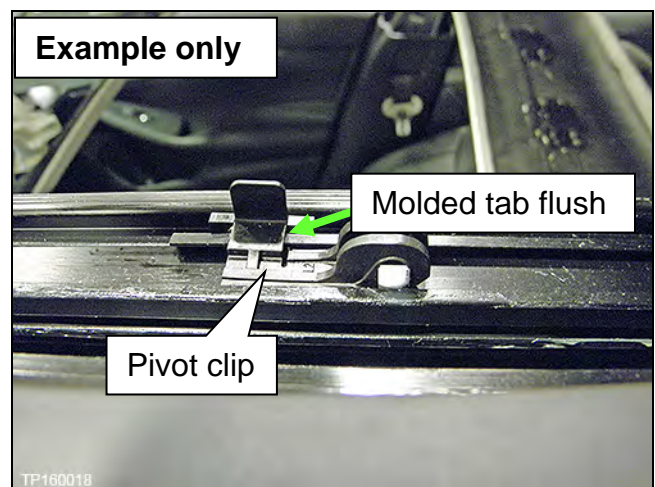

Figure 23
7. Confirm that the molded tabs are completely locked into the Moonroof frame, and are flush with the Moonroof frame (Figure 23).
- Figure 23 shows the driver side pivot clip with wind deflector arm removed so that the molded tab can be seen.